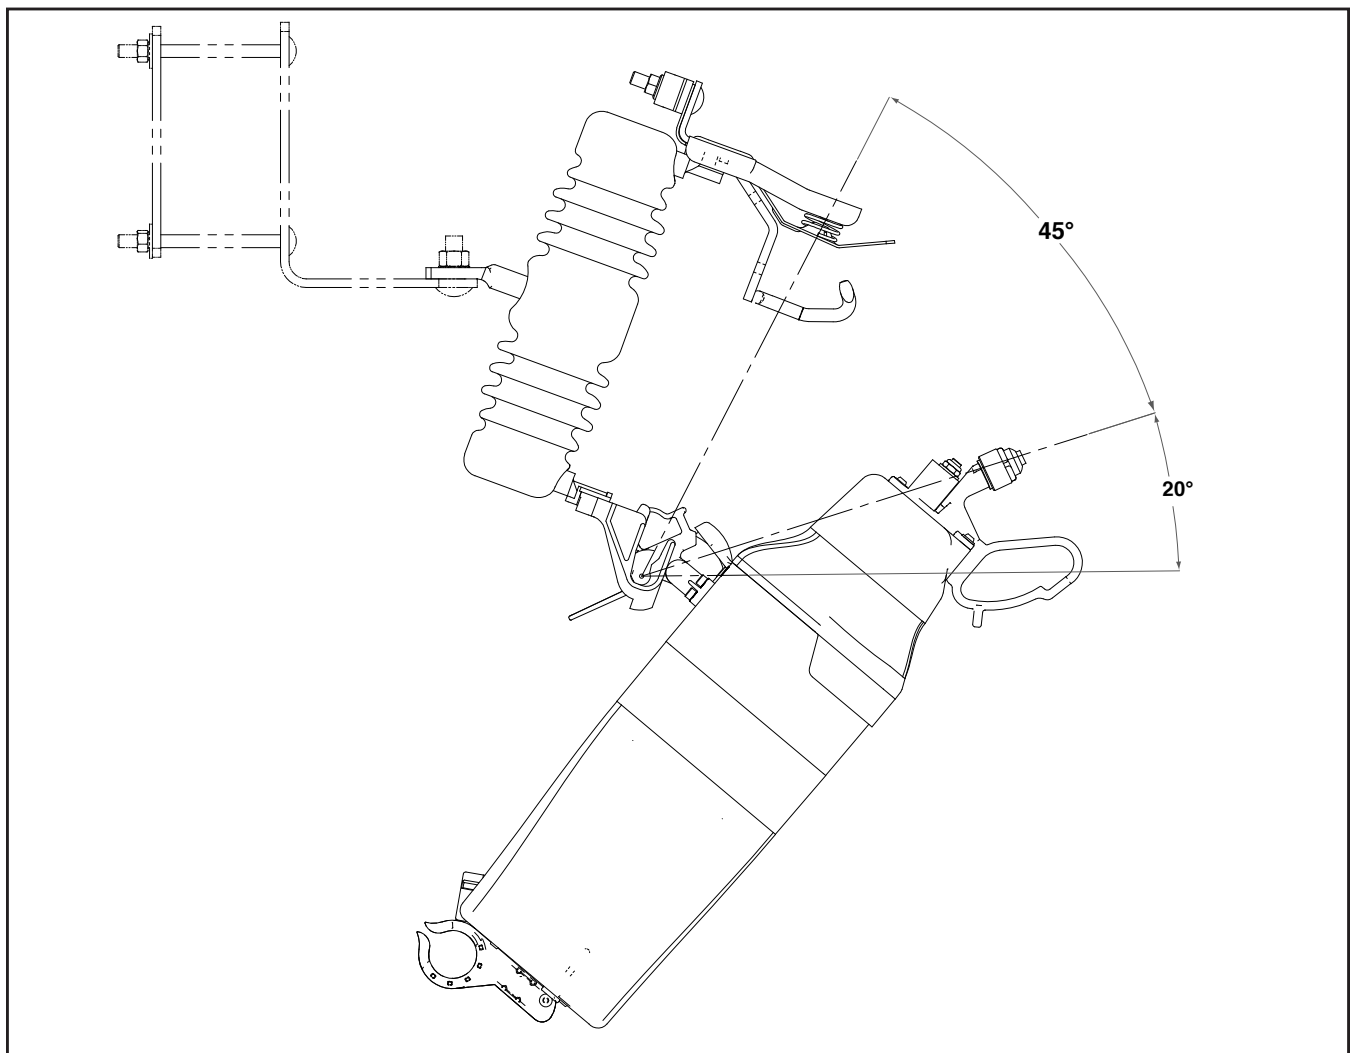

Figure 12. Swinging TripSaver Dropout Recloser to within 45° of the fully closed position before final closing.
STEP 3. Insert the straight prong of an S&C Talon Handling Tool or a distribution prong into the pull-ring. Swing TripSaver Dropout Recloser to within approximately 45° of the fully closed position as shown in Figure 12. Then drive the TripSaver Dropout Recloser to the closed position using a vigorous thrust while firmly gripping the hookstick. Carefully disengage the prong from the pull-ring, taking care to avoid pulling open the TripSaver Dropout Recloser.